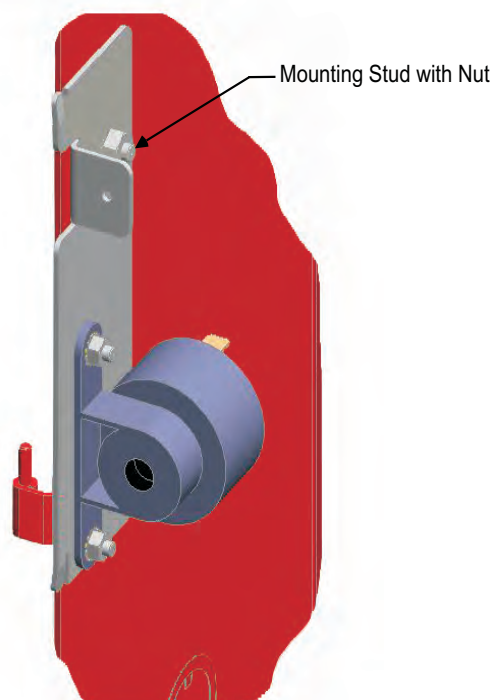

Figure 2-10. Cutout Showing Audible PMU Trouble Sounder Mounted on Inside of Enclosure
2. Place the Audible PMU Trouble Sounder bracket assembly over the stud (oriented as shown in Figure 2-10).